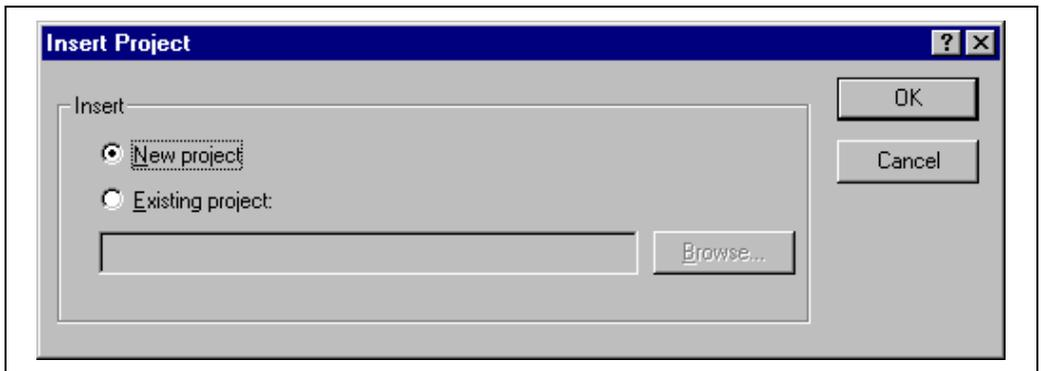

Figure 2.23: [Insert Project] Dialog
1. Select [**Project->Insert Project...**]. The “Insert Project” dialog will be displayed (figure 2.23).